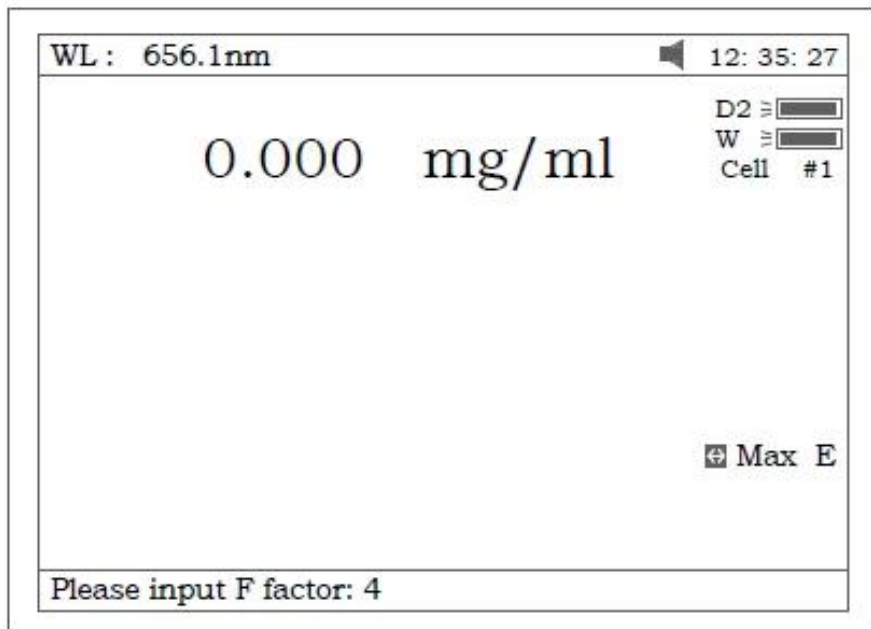

Figure 23
4.1 Press **【F3】** to input known F value, Fig 23. Then push the sample into Main Light Path to take reading of concentration